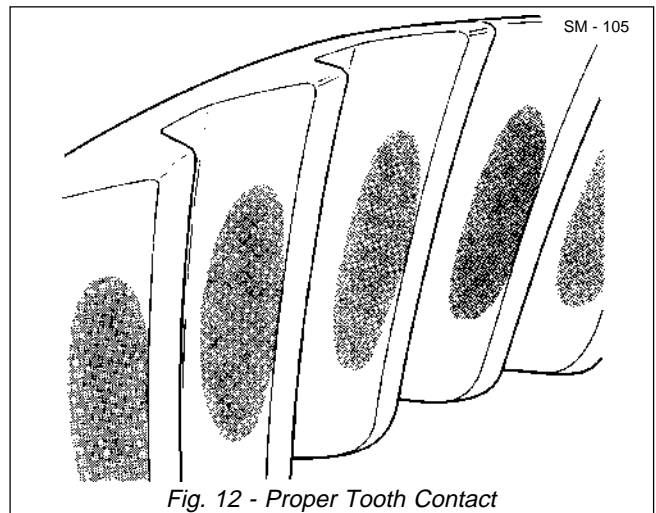

Fig. 12 - Proper Tooth Contact
3. Gear tooth patterns can be interpreted by referring to Figs. 12 through 17.
a. If a contact pattern similar to that shown in Fig. 12 is obtained, the adjustment is correct.